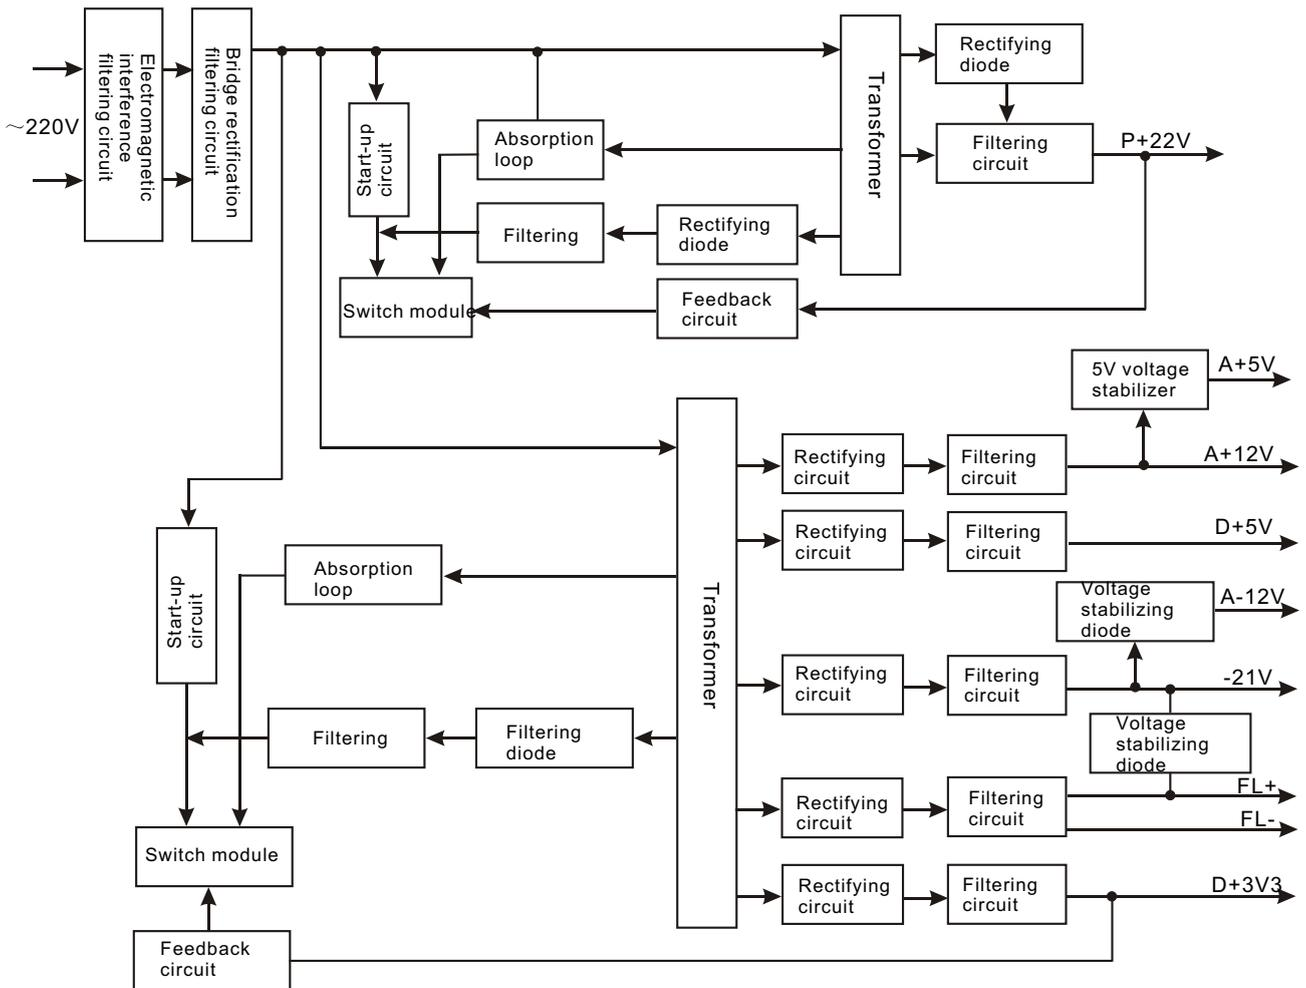

Figure 3.2.12.1 Powercircuit block diagram
1. Power circuit block diagram is shown in the figure 3.2.12.1: